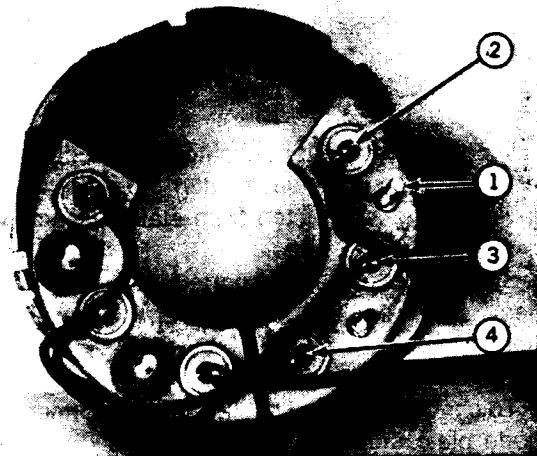

Fig. 34-In-Circuit Negative Rectifier Diode Test Points
To check negative diode assembly, connect test lamp probes to diode plate stud (1, Fig. 34) and to diode lead (2). Reverse test lamp probes. Test lamp should light in one direction only.